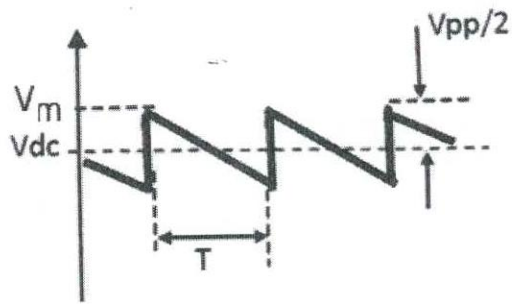

Figure Q1
- ii) Derive the root mean square (rms) voltage for a saw tooth ripple with period of T and peak to peak voltage of V_{pp} shown in Figure Q1. Show all the steps in the derivation.